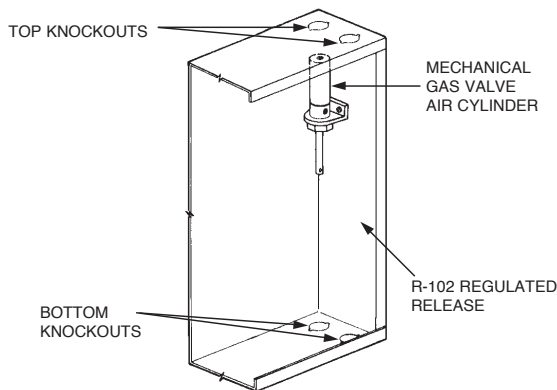

FIGURE 5-44
4. Locate the air cylinder and the bracket assembly over the two 7/32 in. (5.6 mm) holes on right side of the enclosure. Assemble with screws, lockwashers, and nuts. Wrench tighten. See Figure 5-43. Air cylinders can also be mounted in the inverted position, allowing for direct exit out the knockouts in the bottom of the enclosure. See Figure 5-44.